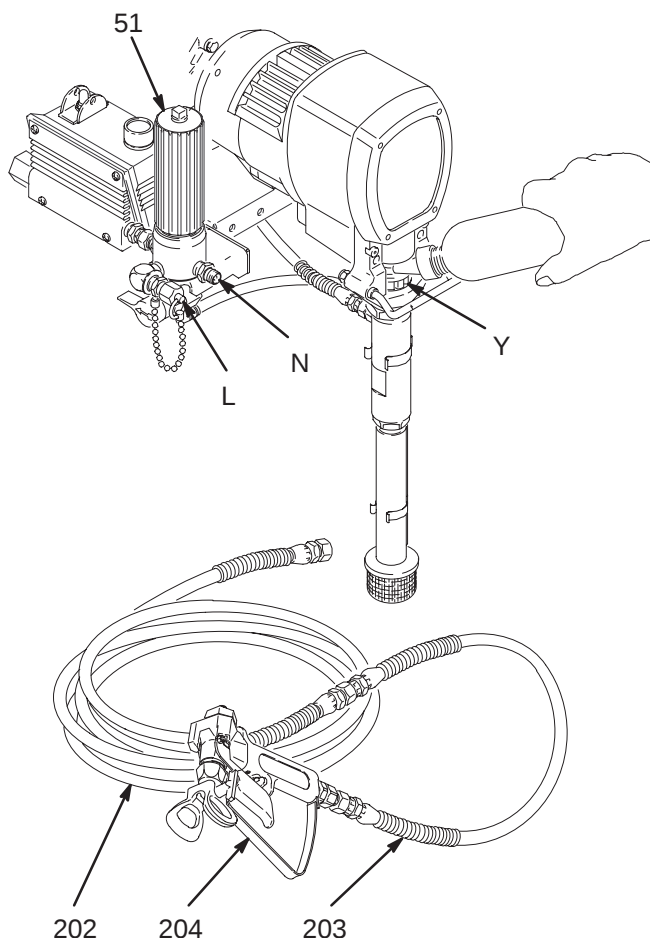

Fig. 2
3. Never install any shutoff device between the filter (51) and main hose (202). See Fig. 2.
4. Always use the primary filter outlet (N) for a one gun operation. Never plug this outlet.
1. Connect hose and gun. (Fig. 2)
- a. Remove the plastic cap from the 1/4 npsm(m) filter outlet nipple (N). Screw the 50 foot (15.2 m) main fluid hose (202) onto the nipple. Read the CAUTION, above.
- b. Connect the whip end hose (203) between the main fluid hose and the inlet adapter of the gun (204).
2. **Two gun hookup.** Remove the cap from the secondary hose outlet (L). Connect the second outlet hoses to the sprayer as explained in Step 1, above.
3. **Fill packing nut/wetcup.** Fill the packing nut/wetcup (Y) 1/3 full with Graco Throat Seal Liquid (TSL), supplied. See Fig. 2.